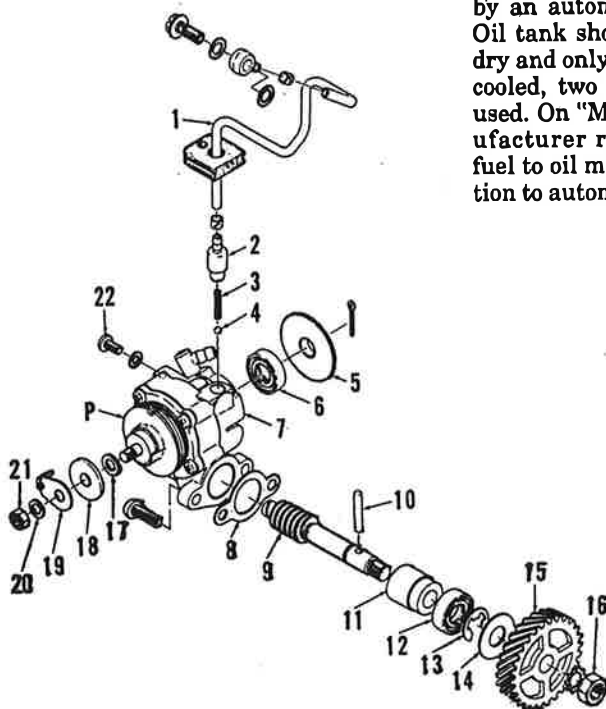

Fig. Y19-9-View of oil pump and related parts.
Oil pump must be bled if it has been removed or allowed to run dry. To bleed pump, remove bleeder screw (22—Fig. Y19-8) and turn starter plate (5) upward while holding throttle fully open. When air is no longer present in oil coming from bleed hole, replace screw. Oil pump adjustment should be checked whenever throttle has been adjusted. Mark on pump adjustment pulley (P) should be aligned with pin, located beneath cover plate (19), when slack has been taken up in the cable but throttle slide has not started to move. Minimum pump stroke should be 0.20-0.25mm (0.008-0.010 in.) on "Enduro" models and 0.60-0.65mm (0.024-0.026 in.) on "MX" and "SC" models. Minimum pump stroke is measured with throttle closed. Turn starter plate (5) until gap between adjuster plate (18) and pulley (P) is widest. Adjust gap to minimum stroke specification with various thicknesses of shim (17—Fig. Y19-9).